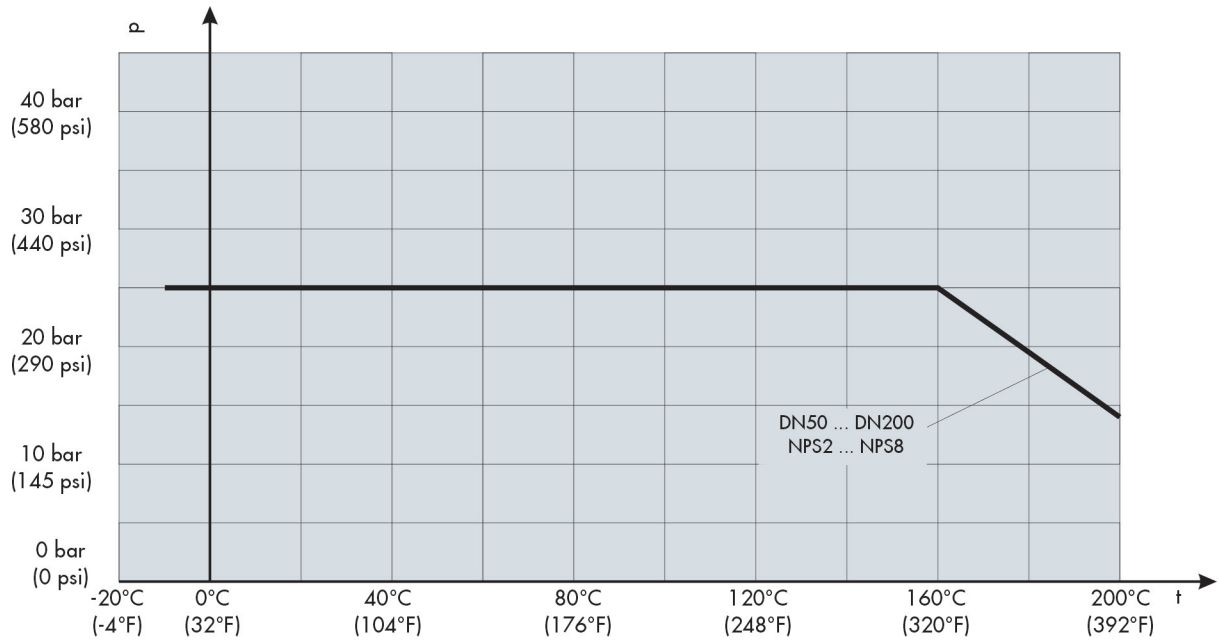

Fig. 6: Druck-Temperatur Diagramm PN25
2. Select the valve acc. to table 2, table 3 and the pressure-temperature diagram Fig. 6 - 7.